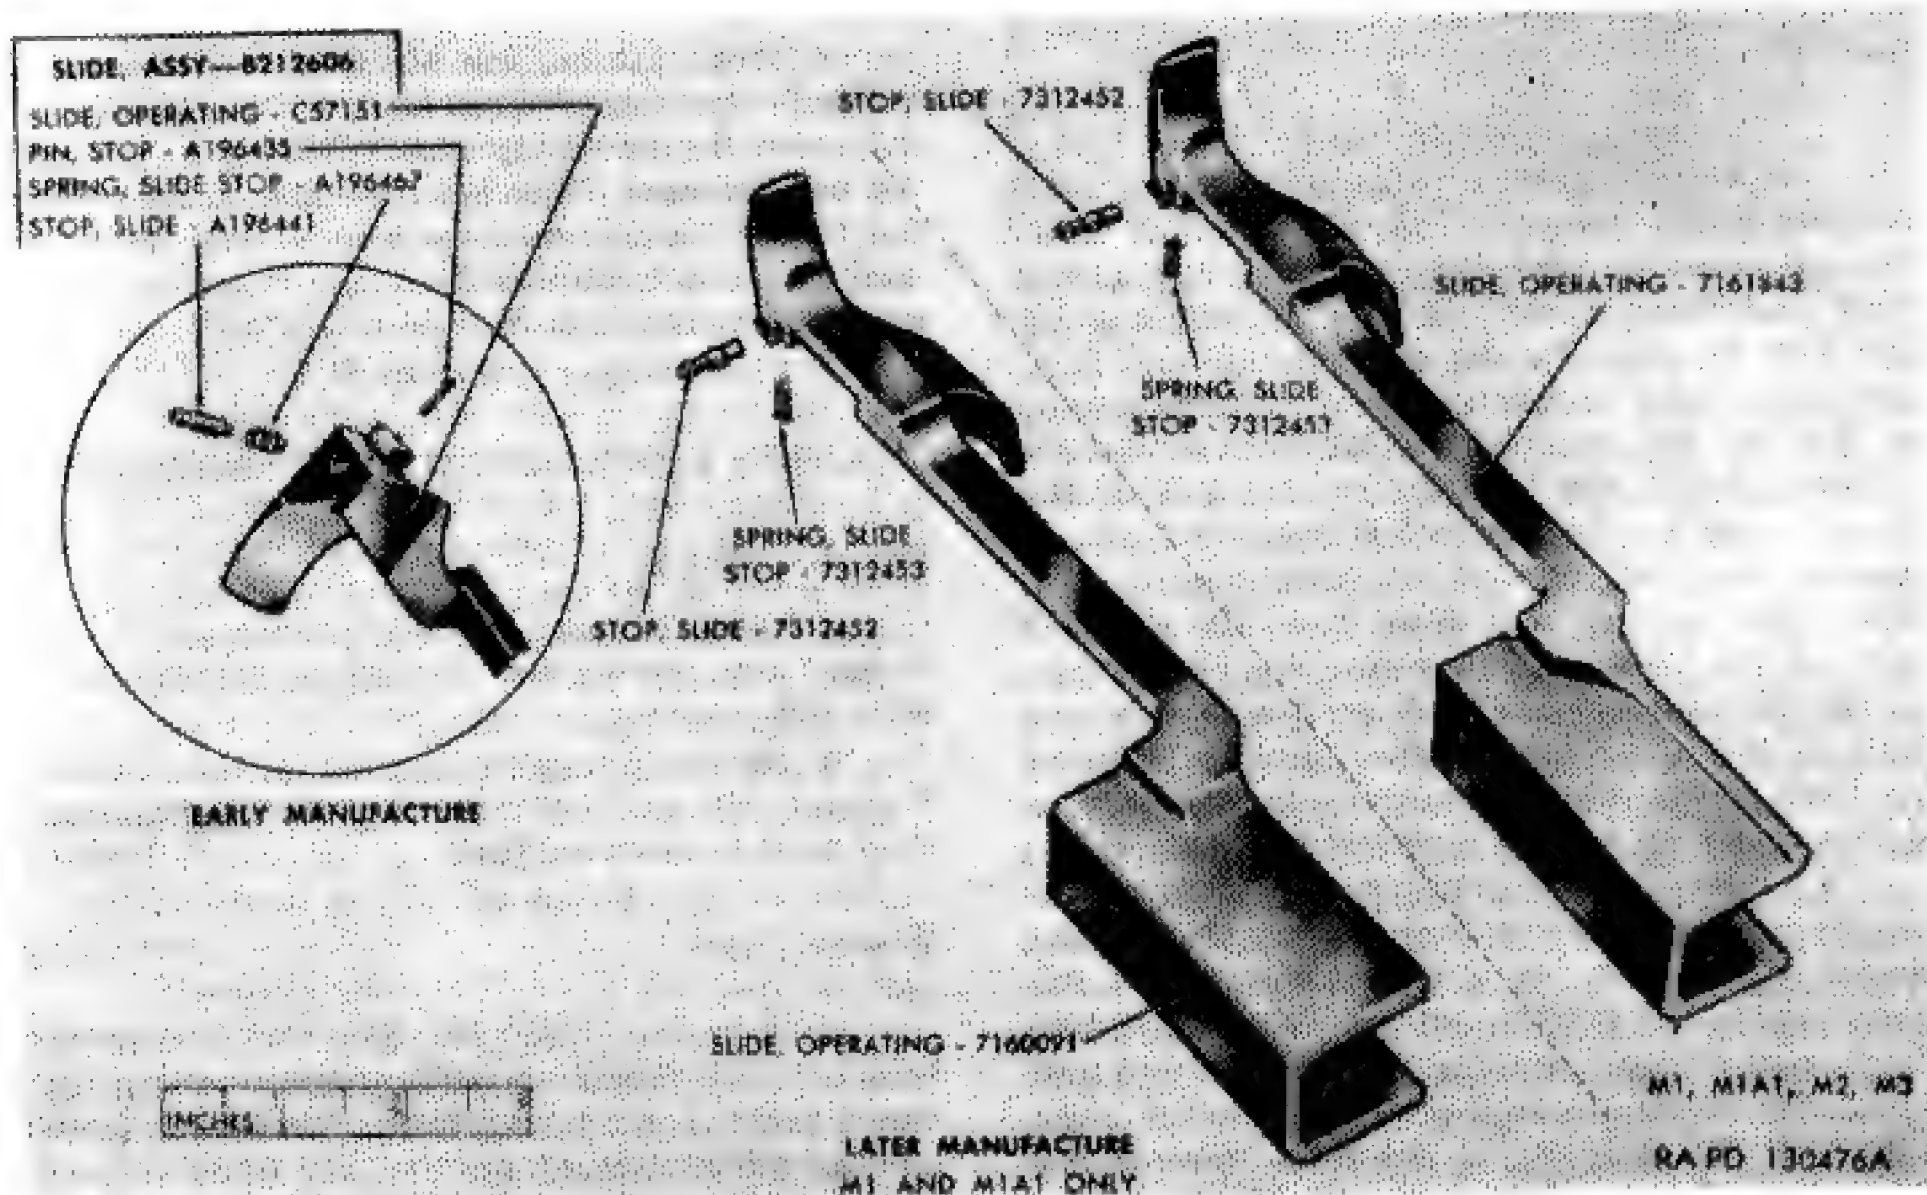

Figure 57. Operating slide assembly.
*a. Operating Slide* (Fig. 57). Check slide for bent or cracked rear bar, deformation, excessively worn guide lugs, burrs, and corrosion. Inspect bolt camming lug recess for wear and burrs. Inspect spring guide seating recess in rear face for wear, burrs, and foreign matter. Inspect front race of
b. *Operating Slide Stop and Stop Spring* (Fig. 57).
- (1) For depot maintenance, check to assure that stop 7312452 and spring 7312453 are used. For field maintenance, old type is satisfactory if it functions properly.
- (2) Inspect stop for wear and burrs, looseness in operating slide, and rust. Inspect stop spring for functioning, lack of friction with stop, and for set. Inspect spring for foreign matter.